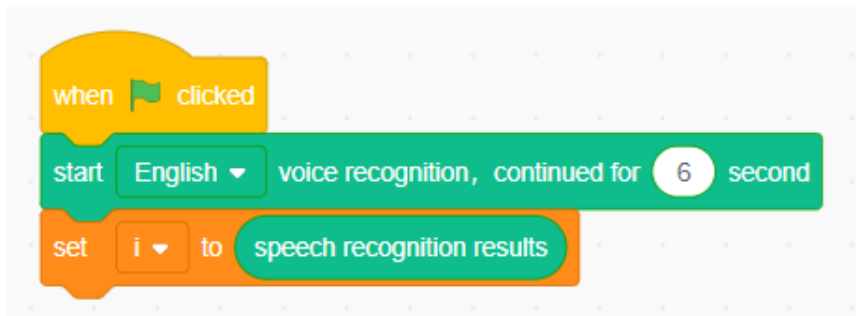

Figure 5.5 "When the green flag is clicked" triggers the program to run
Step 5: Click the "**Events**" tab and drag the "When  is clicked" block to trigger the program to run as shown in Figure 5.5.